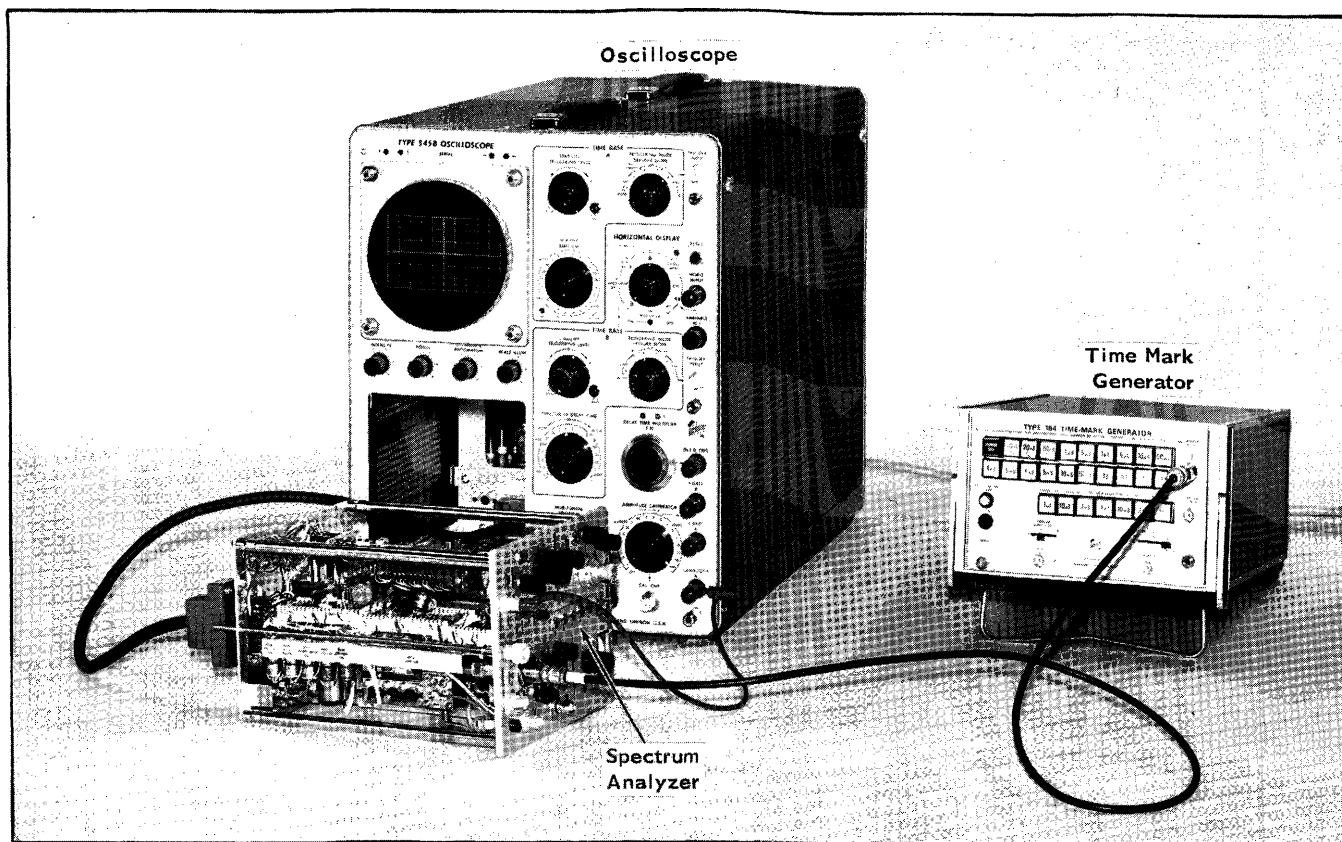

Fig. 6-15. Setup for adjusting IF Amplifier Response (Step 9).
9. Adjust Narrow-Band IF Amplifier Peaking ①
- a. Connect the equipment as shown in Fig. 6-15.